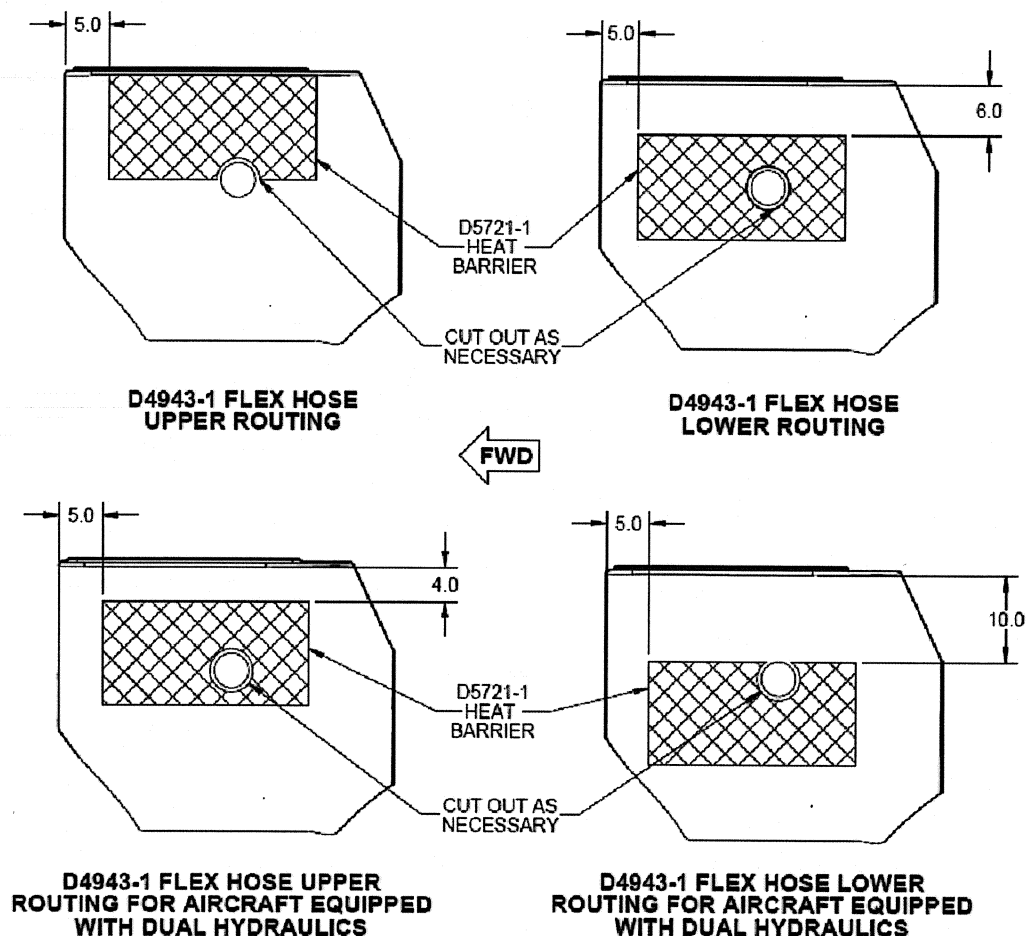

Figure 1 - Heat Barrier Installation
2.2 Clean the inside of the engine cowl in the location identified in Figure 1 to remove dirt and oil using isopropyl alcohol
2.2 Remove the backing on the D5721-1 Heat Barrier and apply to the inner surface of the cowl in the location shown in Figure 1.